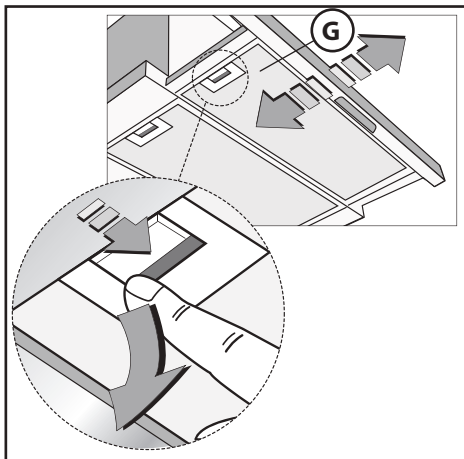

Fig.10
• If the cooker hood is installed above a glass ceramic or induction hob, the minimum distance between the hob and the hood is **45cm**. For gas stoves the minimum distance is **65cm**. If a connection tube composed of two parts is used, the upper part must be placed outside the lower part. Do not connect the cooker hood exhaust to the same conductor used to circulate hot air or for evacuating fumes from other appliances generated by other than an electrical source. Before proceeding with the assembly operations, remove the anti-grease filter(s) (Fig.10) so that the unit is easier to handle.